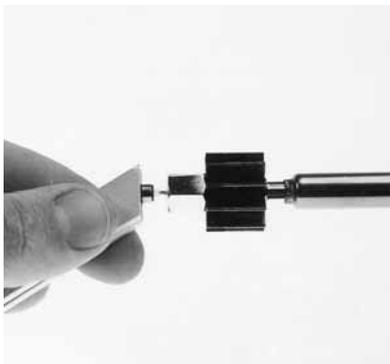

Fig 3. Tubing end parallel with flanging tool surface.
5. Position the tubing end onto the flanging tip. Make sure the tubing end is parallel to the flat surface of the flanging tip (figure 3).